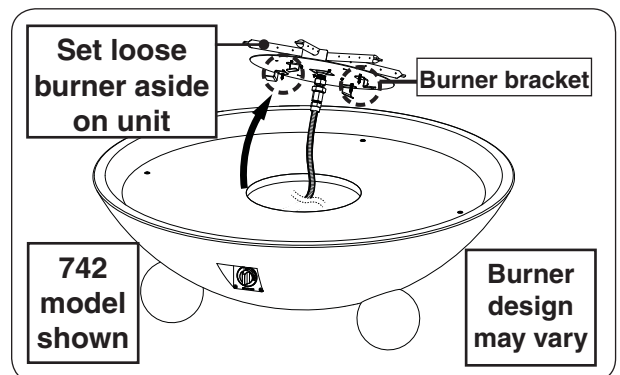

Fig. 27-3 Remove burner assy
1. Use a  $5/16$ " nut driver to partially unfasten the four screws found on the burner assembly. Then **carefully** remove the burner and set it off to the side. See Fig. 27-3.